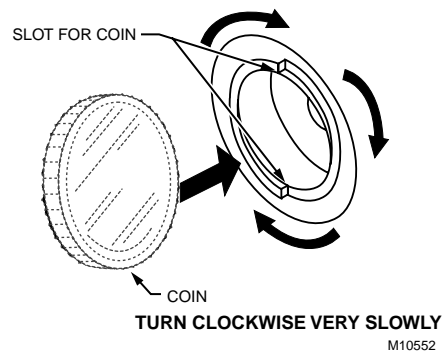

Fig. 13. Turn automatic flushing timer indicator clockwise.
6. Use an appropriate coin and very slowly turn the automatic flushing timer indicator clockwise. See Fig. 13. Allow the humidifier to drain completely.